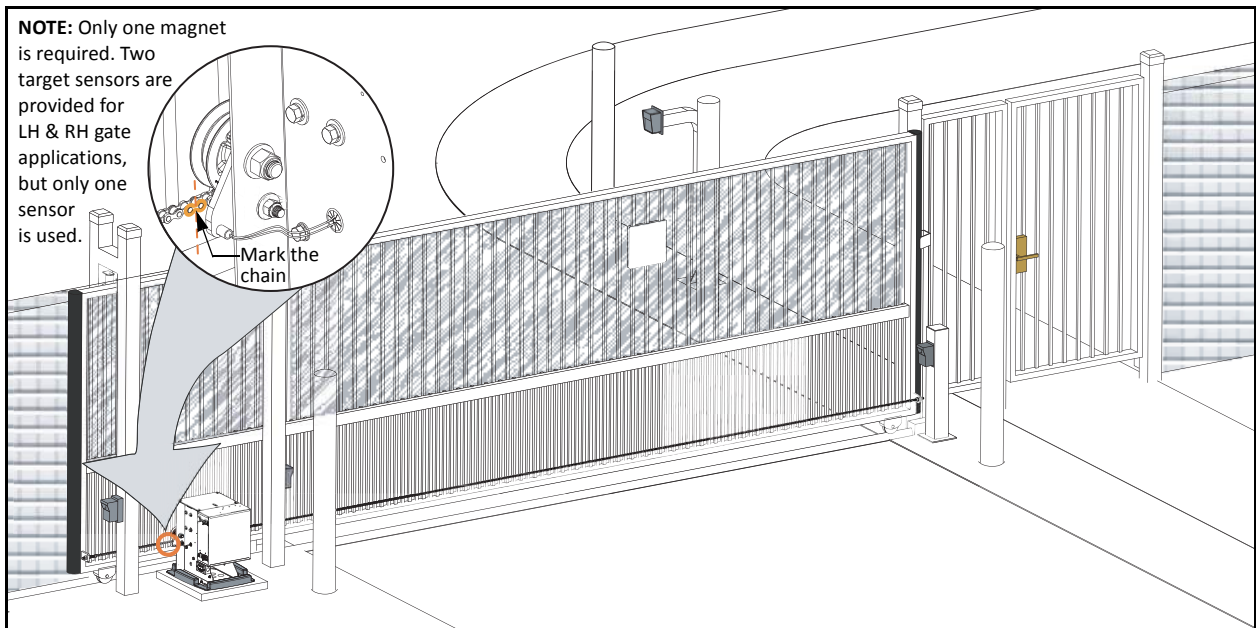

Figure 1-17.
1. With the gate CLOSED, mark the chain link directly across from target sensor that is closest to the trailing edge of the gate. See Figure 1-17.